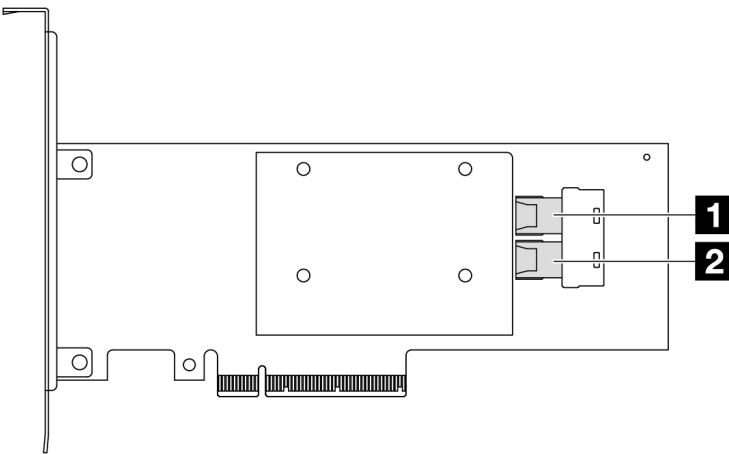

Figure 316. A Gen 3 8i SFF RAID/HBA adapter (two port connectors)
- Figure 316 “A Gen 3 8i SFF HBA adapter (two port connectors)” on page 343